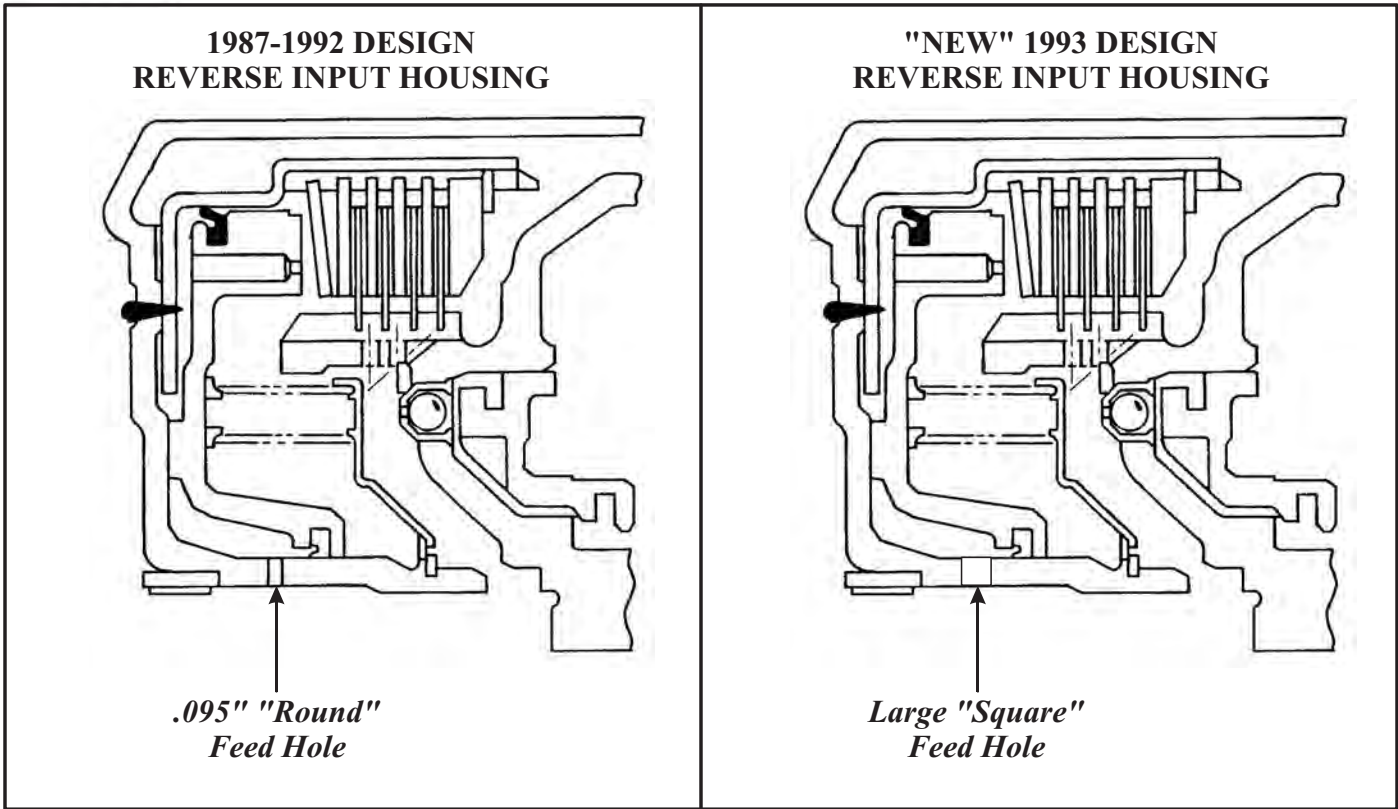

Figure 71
CHANGE: Beginning at the start of production for 1993 models, all 700-R4 transmissions were built with a new reverse input housing with a large square feed hole, instead of the previous .095" round feed hole, as shown in Figure 71.
- (1) REVERSE INPUT HOUSING - Feed hole has been enlarged from .095" round hole, to a large square hole, and this is the *only* means of identification, as they both require the aluminum piston, as shown in Figure 71.